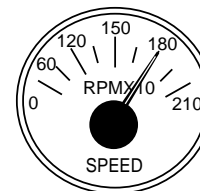

Figure 43. Engine Tachometer Gauge
9. The **tachometer gauge** (Figure 43) will indicate the speed of the engine when the generator is operating. Under normal operating conditions this speed is approximately 1800 RPM's.